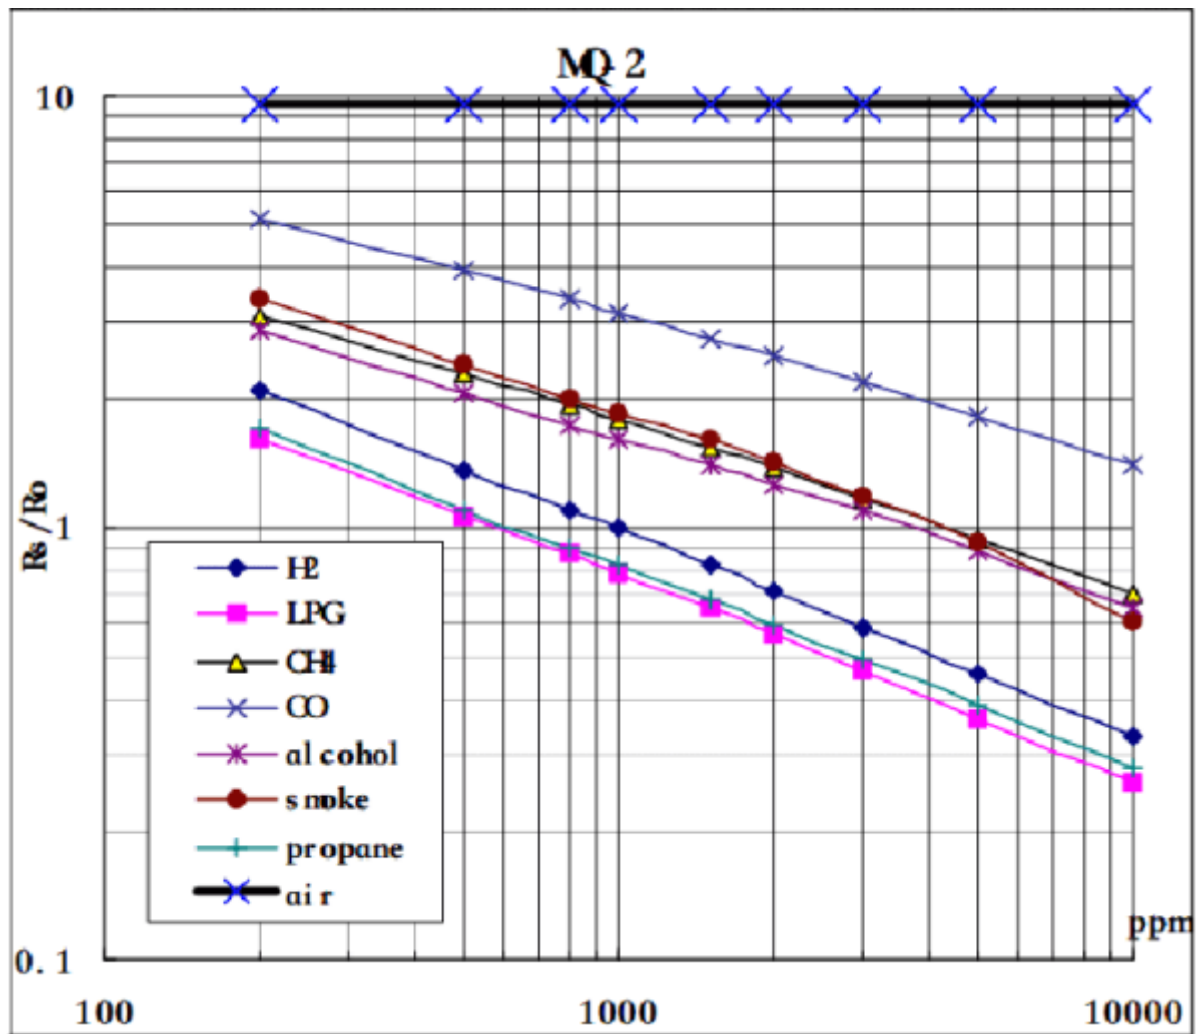

Figure 2.5 MQ2 Sensitivity characteristics. Source: <https://www.mouser.com/datasheet/2/321/605-00008-MQ-2-Datasheet-370464.pdf>}}
- Specified in Figure 2.5 and in the specifications of the manufacturer, the sensor can only read gas concentrations between 200 and 10000ppm.